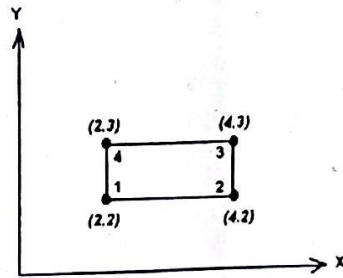

Fig.13(a)
13. (a) (i) A bilinear rectangular element has coordinates as shown in Fig.13(a) and the nodal temperatures are $T_1 = 100^\circ \text{ C}$, $T_2 = 60^\circ \text{ C}$, $T_3 = 50^\circ \text{ C}$, $T_4 = 90^\circ \text{ C}$.